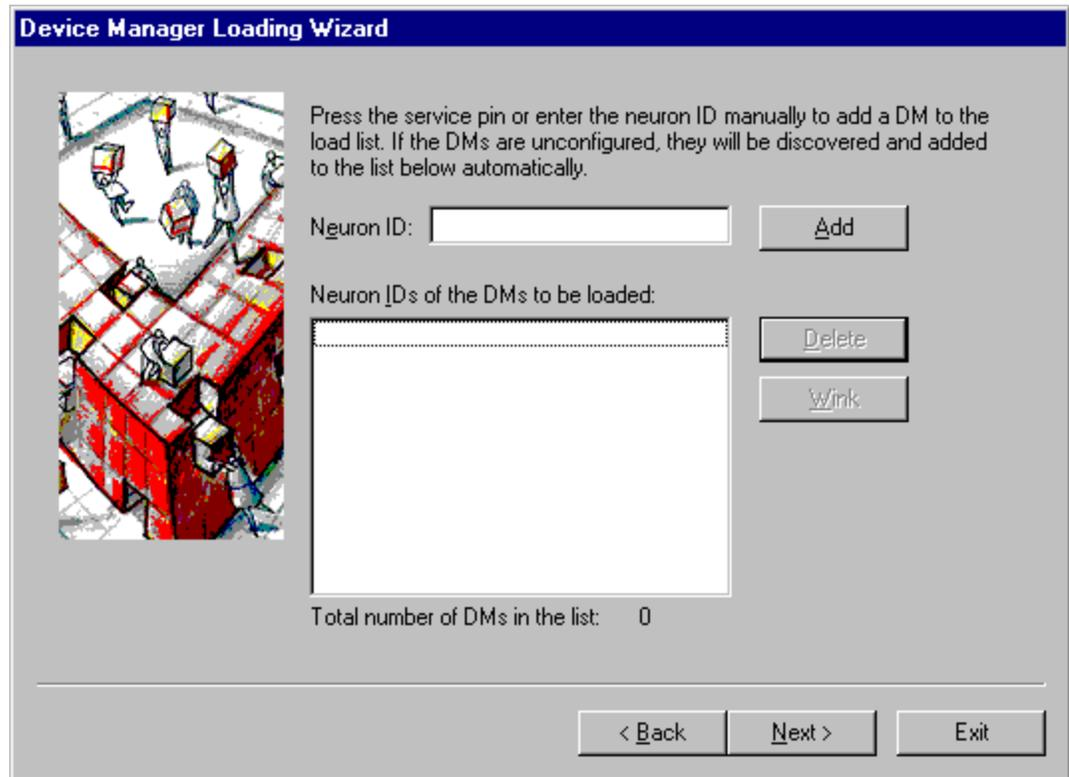

Figure 7.6 – Select Device Manager Modules
4. Click Next. The window shown in figure 7.6 will appear.